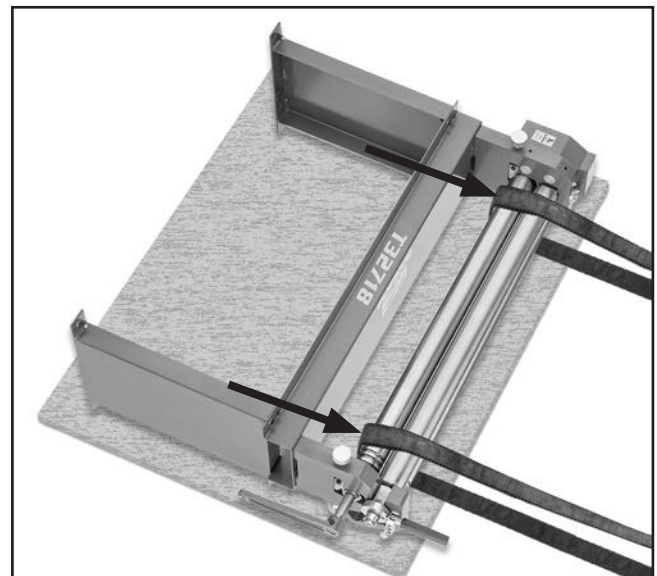

Figure 7. Lifting straps placed around and under rollers.
6. Place lifting straps around and under rollers at locations shown in **Figure 7**. Straps should spread as wide as possible.